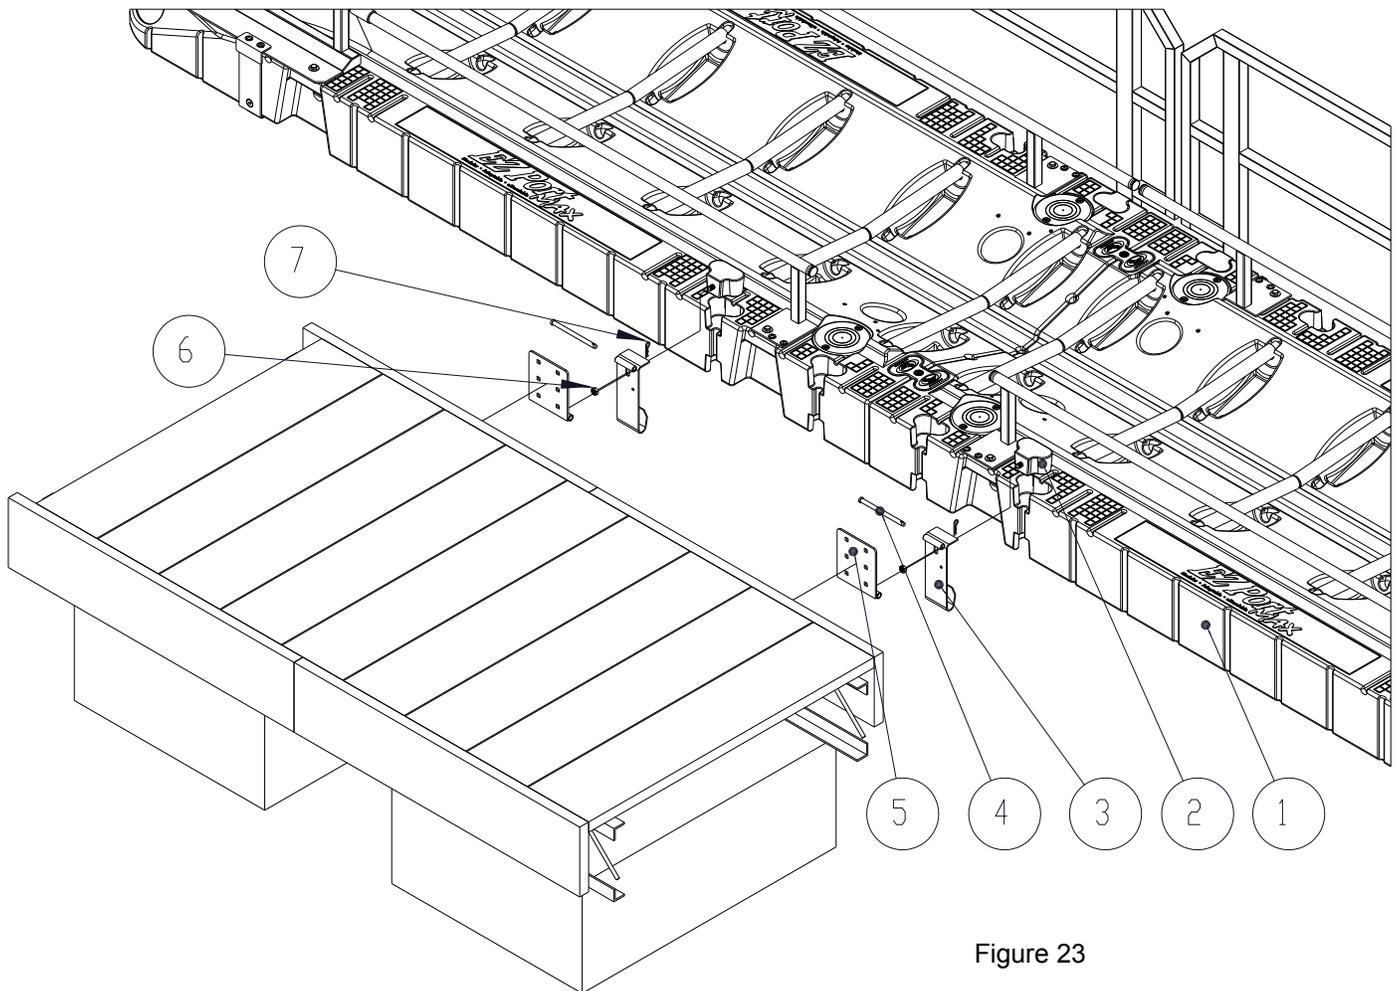
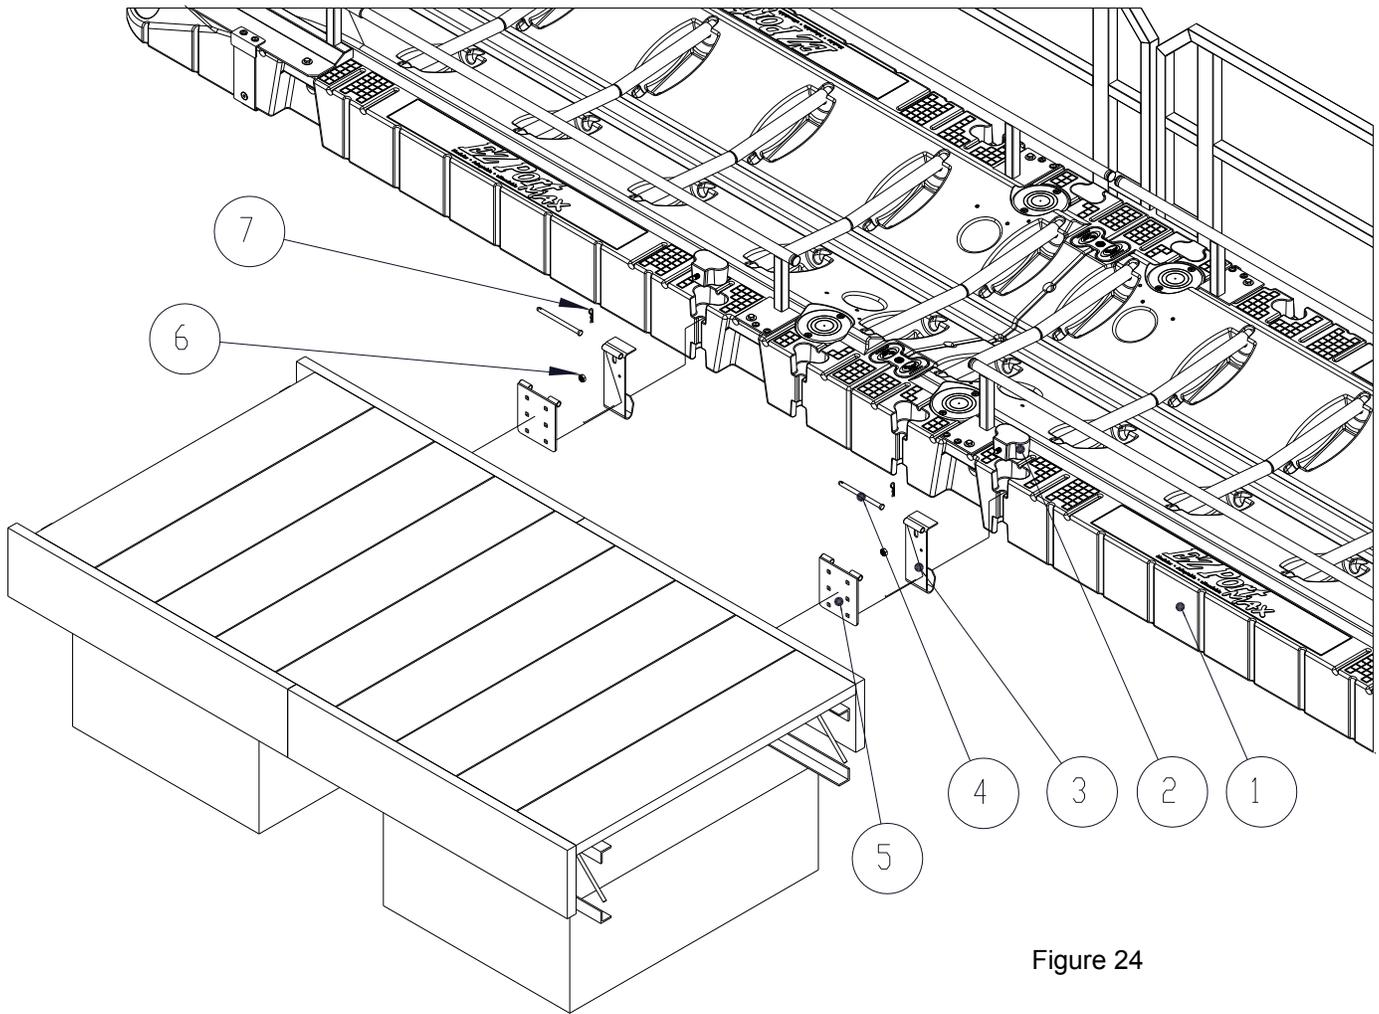

Figure 23
Figure 24
- Determine the best position for the hinge adapter plate. The plate can be above (Figure 23), perpendicular, or directly in front of the hinge adapter bracket, as shown in Figure 24.